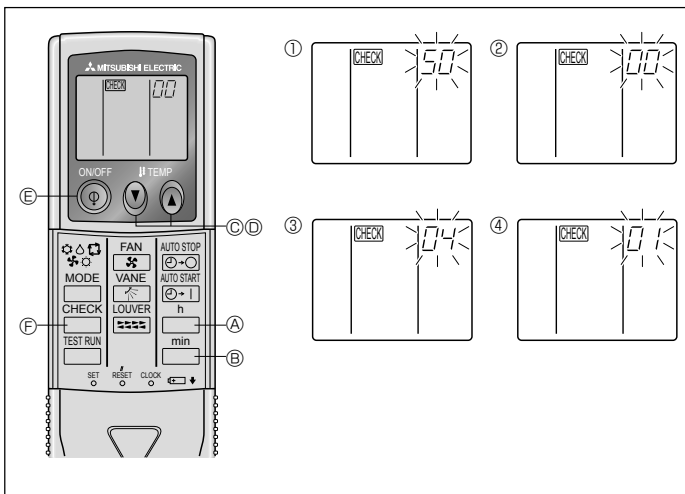

Fig. 6-10
⑧ Press the MODE button $\text{\textcircled{E}}$ and mode and the setting number (I) and (II) will change to being on constantly and the contents of the setting can be confirmed.
⑨ Press the FILTER $\text{\textcircled{A}}$ and TEST RUN $\text{\textcircled{B}}$ buttons simultaneously for at least 2 seconds. The function selection screen will disappear momentarily and the air conditioner OFF display will appear.
2) For wireless remote controller (Fig. 6-10)